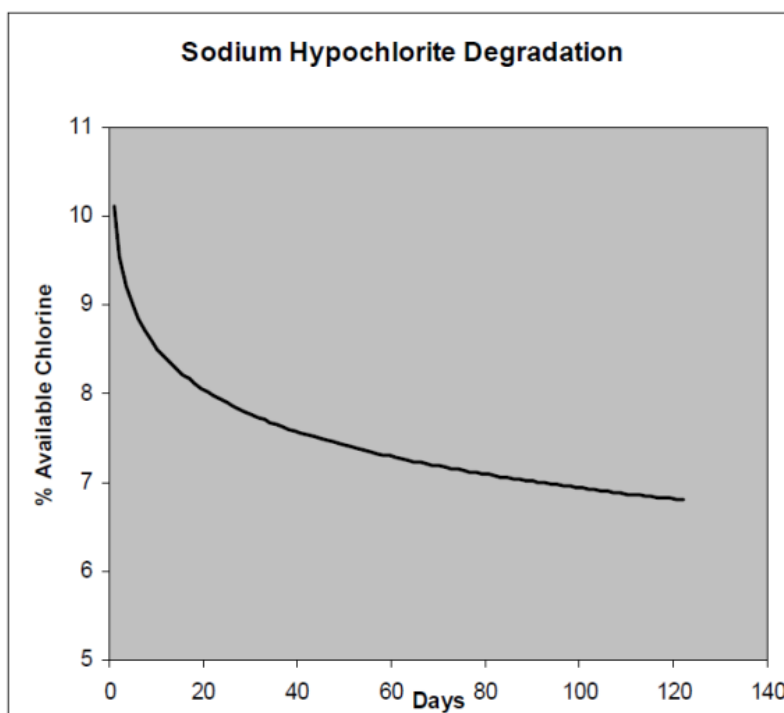

Figure 2 Sodium Hypochlorite Degradation Curve
- tank sizing and storage time that takes into account the chemical degradation. Sodium hypochlorite degrades in proportional to its concentration, i.e. stronger concentrations degrade faster than more dilute ones (refer to Figure 2 Sodium Hypochlorite Degradation Curve below).